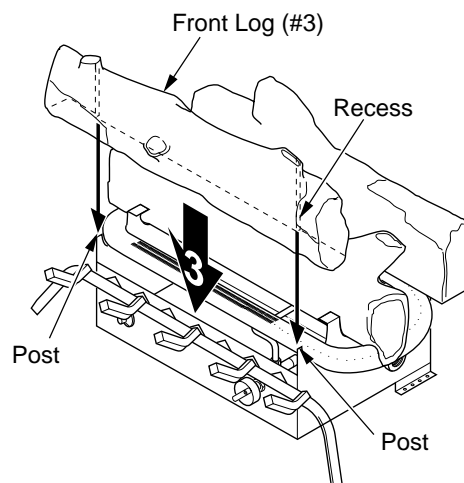

Figure 21 - Installing Front Log (#3)
- Locate the recesses on the back of the front log (#3). Fit these recesses between the posts of the grate base (see Figure 21).